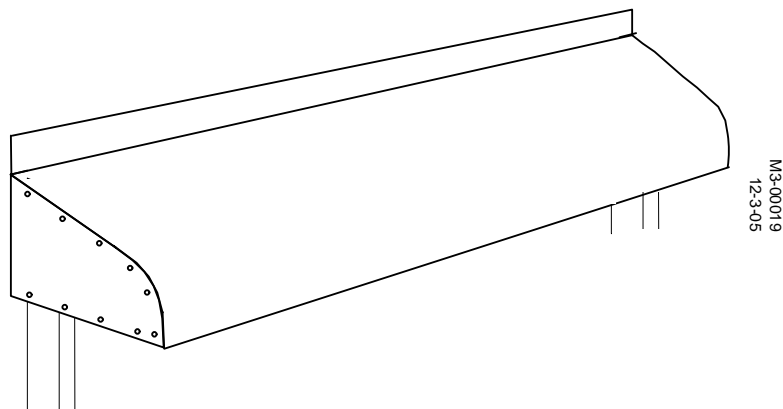

Figure A-4: Attach skin to frame with tech screws
4. Attach skin to frame with tech screws. See Figure A-4.